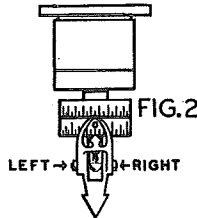

FIG. 2
2. Loosen hex nut and cone point allen set screw on left side of gage (see fig. 2) and remove old level assembly.